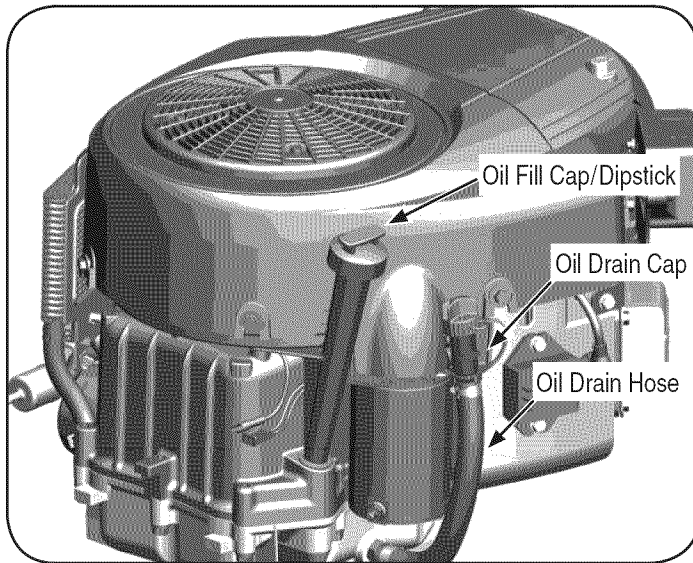

Figure 27
2. Remove the oil fill cap/dipstick from the oil fill tube. See Figure 27.